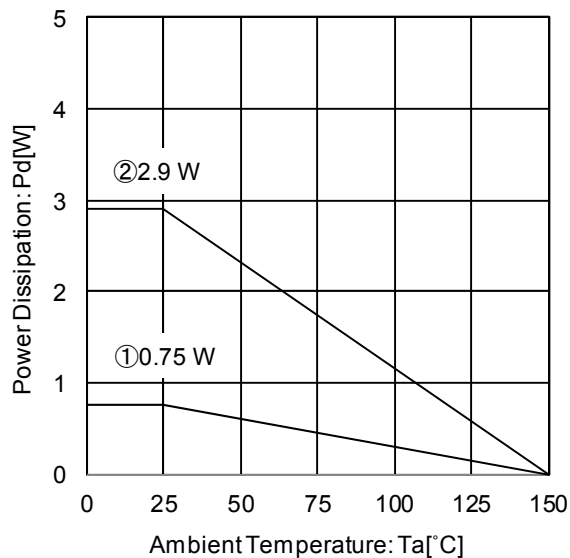

Figure 25. Package Data
Refer to the heat mitigation characteristics illustrated in Figure 25 to Figure 28 when using the IC in an environment of $T_a \geq 25^\circ\text{C}$. The characteristics of the IC are greatly influenced by the operating temperature, and it is necessary to operate under the maximum junction temperature T_{max} .
At $T_a = 125^\circ\text{C}$ with Figure 25 ② condition, the calculation shows that ca 56.4mA of output current is possible at 10.2V potential difference across input and output.
At $T_a = 125^\circ\text{C}$ with Figure 25 ② condition, the calculation shows that ca 67.7mA of output current is possible at 8.5V potential difference across input and output.